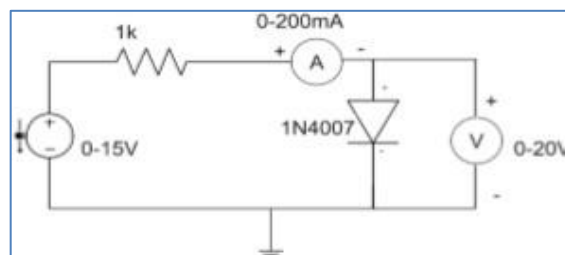

Fig 1. Forward Bias P-N Junction diode
1.1 Determine the V-I characteristics of forward Bias and Reverse Bias P-N junction diode as shown in fig 1 and 2 and draw the V-I Characteristics.